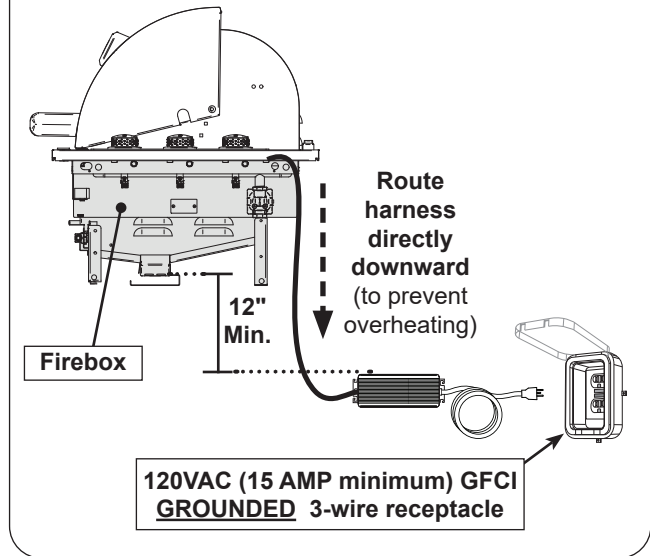

Fig. 30-1 Power supply installation
1. Route the power supply directly downward. This will prevent overheating. **DO NOT** route the harness directly underneath the firebox. See Fig. 30-1.
- located at least **12"** below the bottom of the firebox (see Fig. 30-1)
3. Connect the power cord to a **120VAC (15 AMP minimum) GFCI GROUNDED three-wire receptacle** (see Fig. 30-1). The GFCI receptacle must be a WEATHER-PROOF IN-USE COVERED RECEPTACLE.